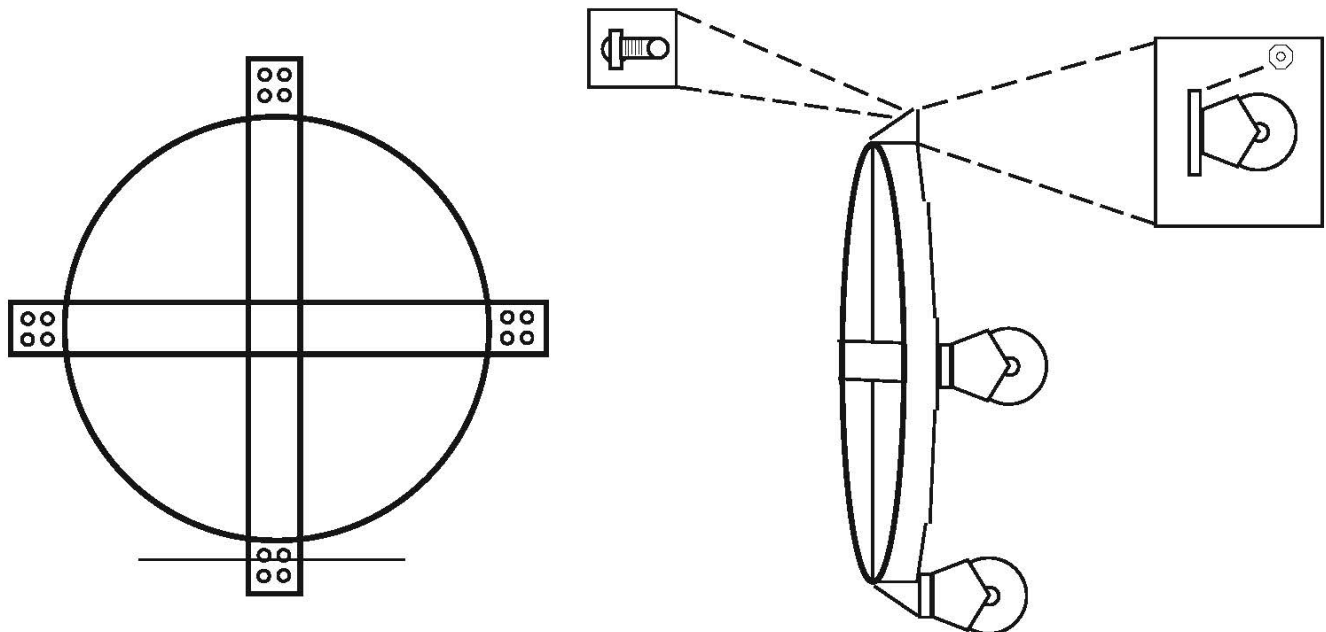

Figure 1
- (1) Place the Dolly carefully on a bench with the rim side down.
- (2) Place the Caster on top of the Cross Brace (4) hole pattern.
- (3) Insert one supplied Carriage Bolt through the far side and attach the supplied Nut (As shown in Figure 1).
- (4) Repeat step 3 until all Casters are secured to the Dolly.